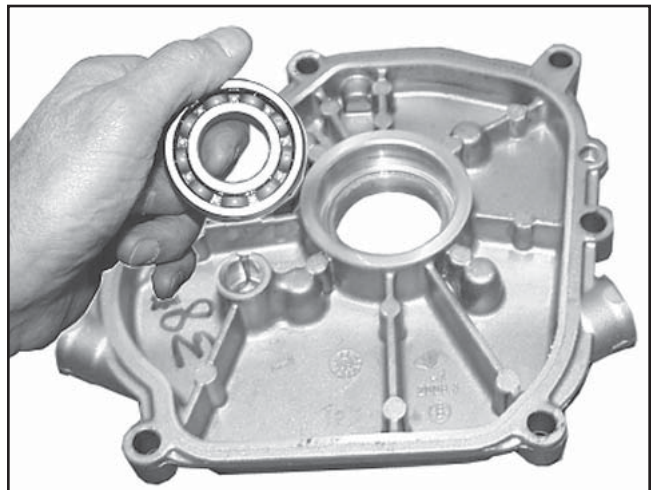

Figure 9-67. Closure Plate Bearing Removal.
4. Using a suitable press, push the crankshaft bearing from the closure plate. See Figure 9-67.